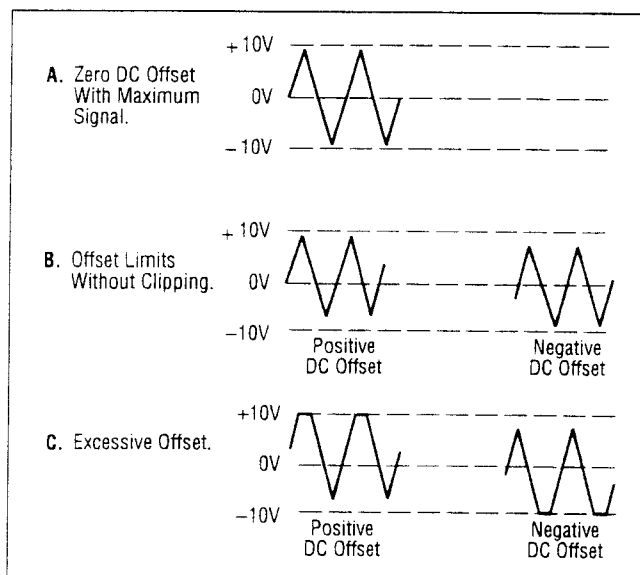

Figure 3. Use of DC OFFSET Control
7. A superimposed DC component can be added to the output signal by engaging the **DC OFFSET** switch (14) to enable operation of the **DC OFFSET** control (5). Rotation of this control adds a positive or negative DC component to the output signal. The DC component introduced is independent of the **OUTPUT LEVEL** control and can be varied by  $\pm 10$  volts open circuited or  $\pm 5$  volts into 50  $\Omega$ . The DC Offset does not affect the **TTL/CMOS** output jack. The effect of DC OFFSET is shown in Fig. 3.
- Remember that the output signal swing of the generator is limited to  $\pm 10$  volts open circuited or  $\pm 5$  volts into  $50 \Omega$ , and applies to the combined peak-to-peak signal and DC offset. Clipping occurs slightly above these levels. Fig. 3 illustrates the various operating conditions encountered when using the DC offset. If the desired output signal is large or if a large DC offset is required, an oscilloscope should be used to make sure that the desired signal is obtained without undesirable clipping.